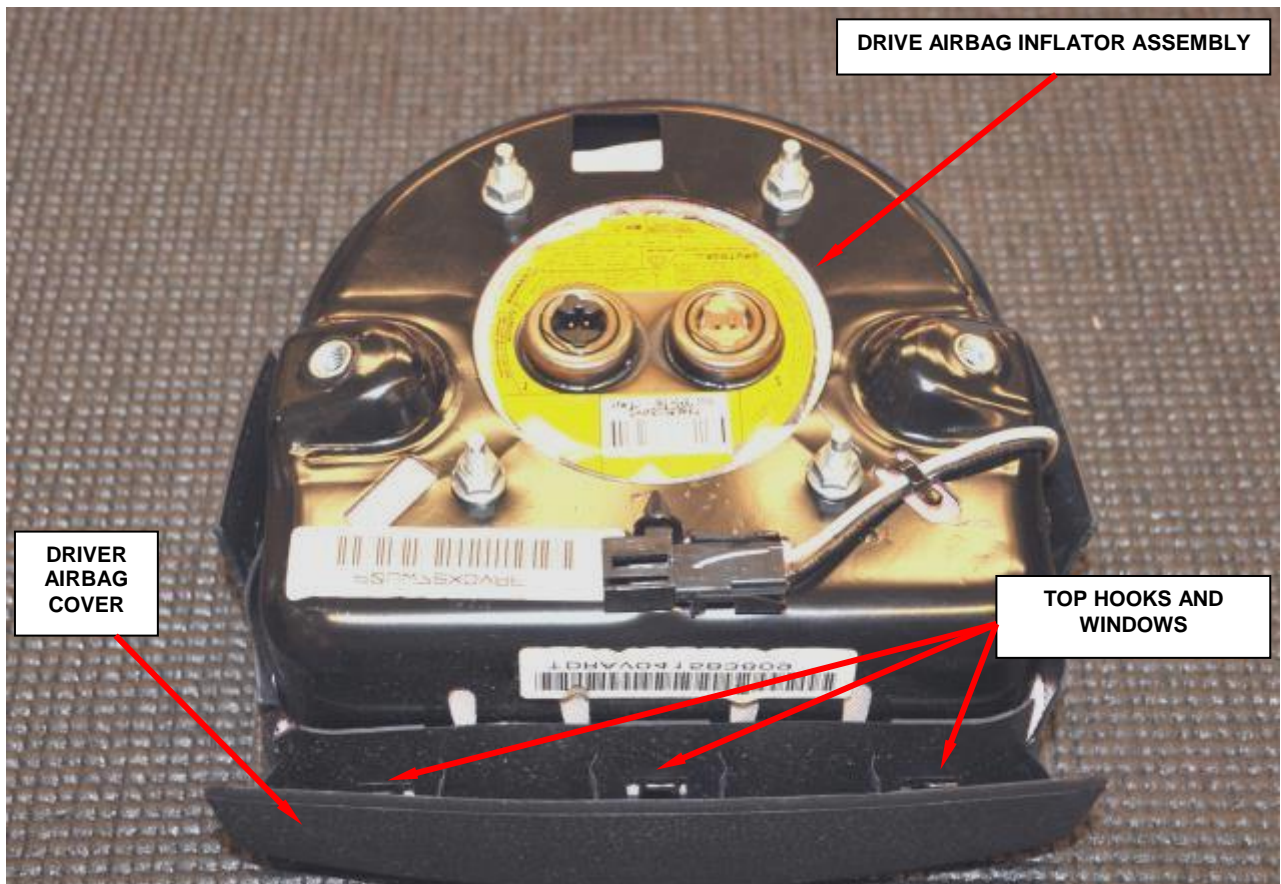

Figure 7 – Driver Airbag Inflator Assembly to Cover
17. Install the new inflator assembly to the original driver airbag cover by first inserting the top hooks into the windows (Figure 7).